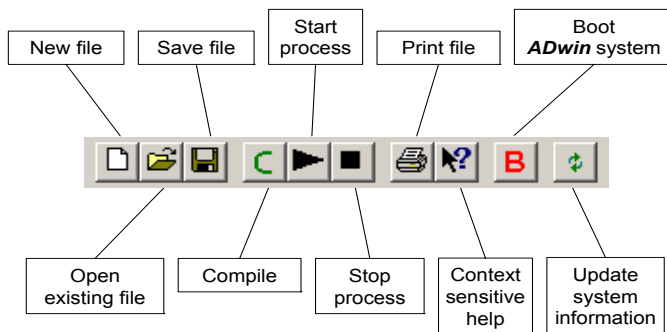

Fig. 2 – The tool bar
- The tool bar (see fig. 2)
You find further information about the process window in chapter 2.3.12 on page 36, about the toolbar see fig. 2.